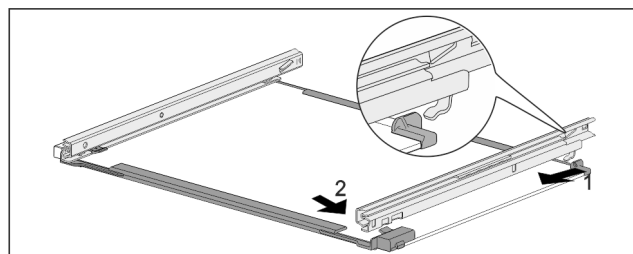

Fig. 245 Glass shelf with rails
- Hook in rail at the back. Fig. 245 (1)
- Hook in rail at the front. Fig. 245 (2)